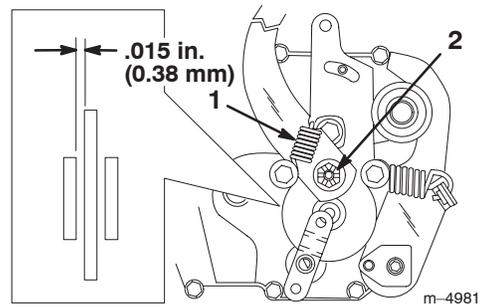

Figure 21
The parking brake is on the right side of the rear axle, inside the rear tire (Fig. 21). If the parking brake does not hold securely, adjust it.
2. Remove the brake arm spring (Fig. 21).
3. Remove the cotter pin that secures the brake adjusting nut and slightly loosen the nut (Fig. 21).
4. Insert a 0.015 in. (0.38 mm) feeler gauge between the brake disc and brake puck (Fig. 21).